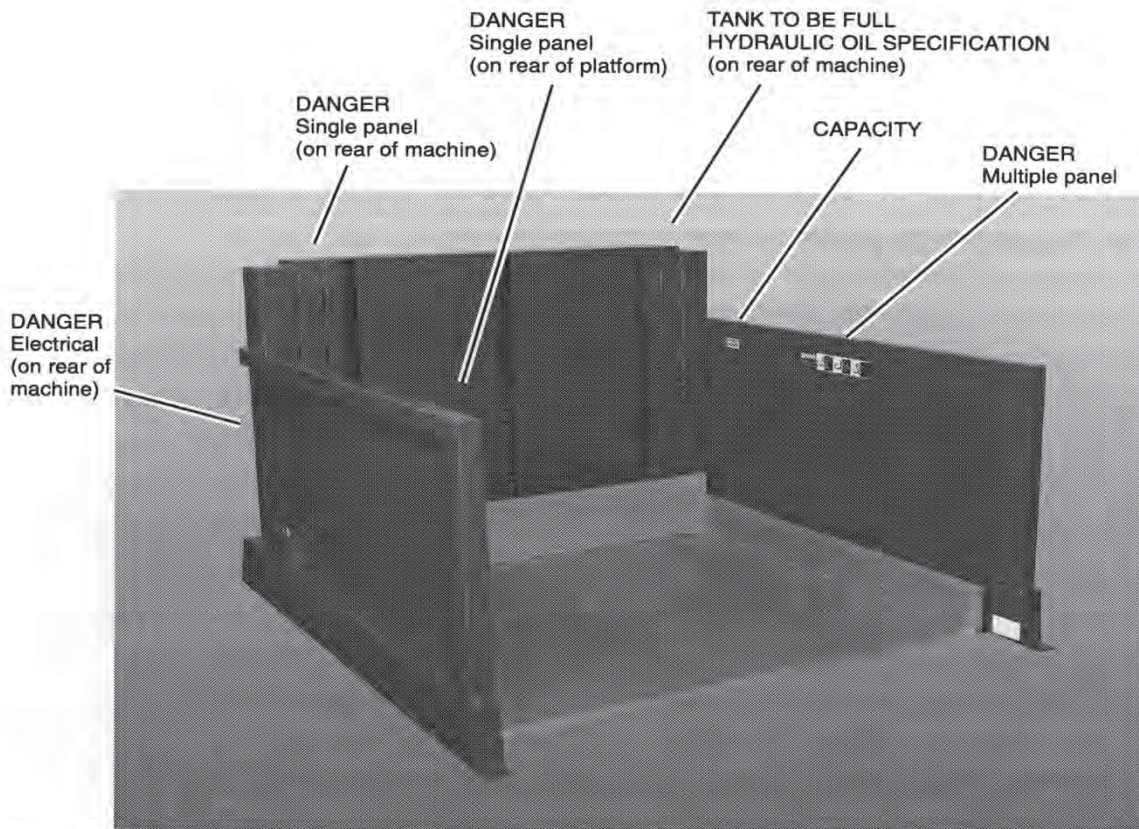

Fig. 1 Safety Labels
5. Figure 1 shows the safety labels on this unit. Check to be sure all of the labels are in place.
- **The warning labels have been included for the safety of the operator. If the labels are worn or missing, or have been painted over, REPLACE THEM before releasing the lift for operation. Fig. 1 shows the safety**
- Be sure all of the warning labels are in position and legible. See Fig. 1. THE WARNING LABELS ARE INTENDED TO PROTECT YOUR WORKERS. If the labels are missing, or if they have been painted over, replace them.